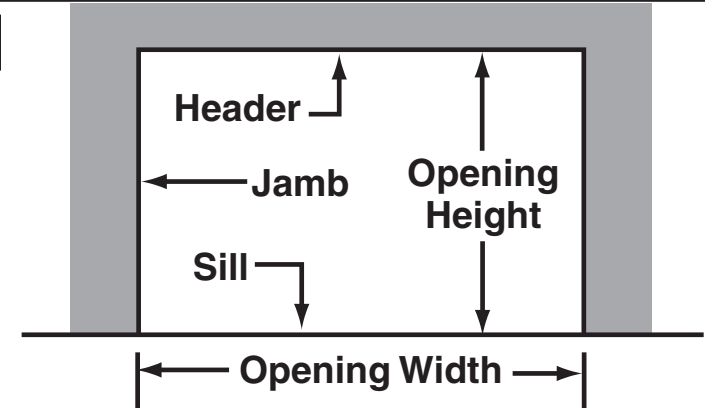

FIG 2
- Does the wall opening shown in **FIG 2** match the Opening Width and Height shown on the "Door Installation Data" sheet?